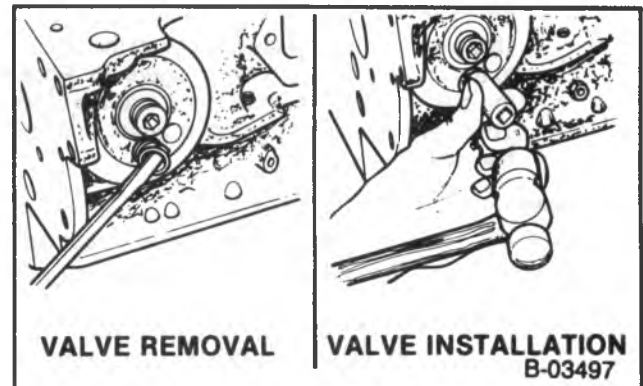

Figure 39 — Replacing The Oil Filter Bypass Valve
Remove or Disconnect (Figure 39)
2. Oil filter relief valve. Pry it from the block with a screwdriver (figure 39).
Install or Connect (Figure 39)
1. Oil pressure relief valve. Tap into place, using a 9/16-inch thin wall deep socket as a driver (figure 39).